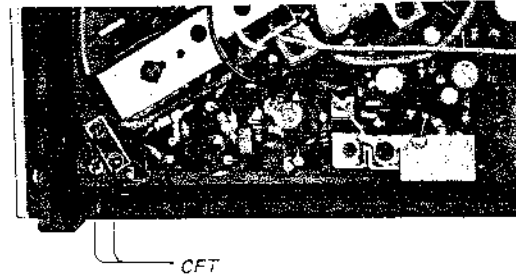
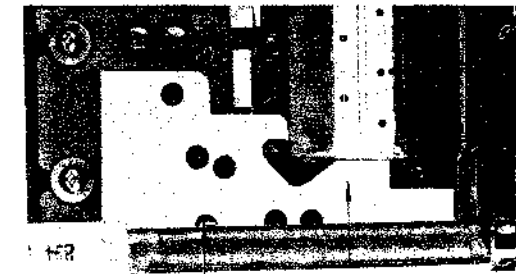
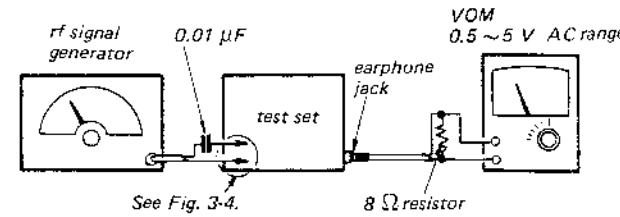
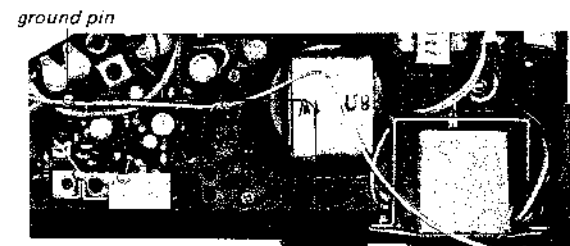

Fig. 3-2. Adjustment locations
Fig. 3-5. Adjustment location
Fig. 3-3. FM i-f alignment setup
Fig. 3-4. Rf signal generator coupling for FM i-f alignment and PSB/FM/SW 1 ~ 3 frequency coverage and tracking adjustment
- Test setup: See Fig. 3-2, Fig. 3-3, Fig. 3-4 and Fig. 3-5.